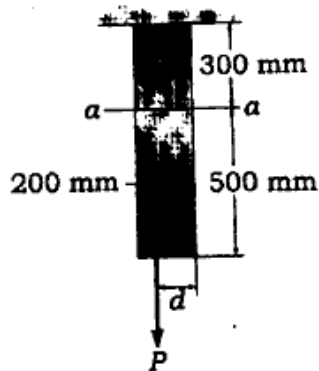

Fig. 5
8. The vertical force  $P$  acts on the bottom of the plate having a negligible weight. Determine the shortest distance  $d$  to the edge of the plate at which it can be applied so that it produces no compressive stresses on the plate at section  $a-a$ . The plate has a thickness of 10 mm and  $P$  acts along the center line of this thickness shown in Fig. 5.